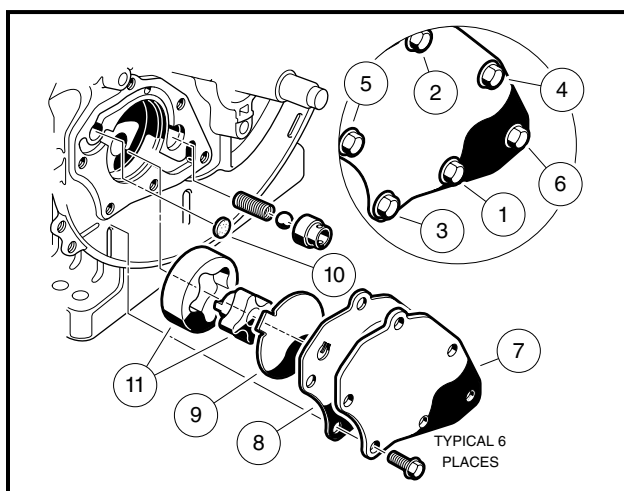

Figure 18-57 Oil Pump Removal
1. Remove the six screws (1-6) and remove the oil pump cover (7) (**Figure 18-57, Page 18-29**).
2. Peel off the oil pump cover gasket (8). Remove the pump gear cover plate (9) and filter screen (10).
3. Remove inner and outer rotors (11) (**Figure 18-57, Page 18-29**).
3. Install six bolts (1-6) and finger-tighten. Then tighten to 7 ft-lb (9.5 N·m) in the sequence shown (**Figure 18-57, Page 18-29**). After tightening bolts, check the torque of the first bolt.